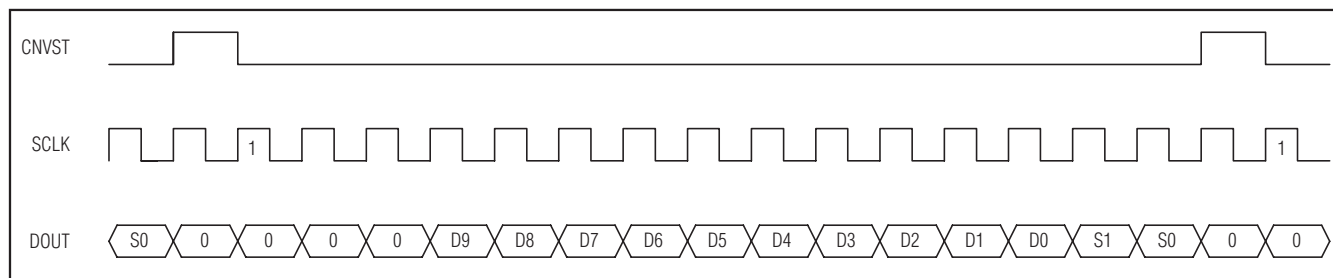

Figure 17. DSP Interface—Continuous Conversion
The MAX1076/MAX1078 can also be connected to the TMS320C54_ by using the data transmit (DX) pin to drive CNVST and the CLKX generated internally to drive SCLK. A pullup resistor is required on the CNVST signal to keep it high when DX goes high impedance and 0001hex should be written to the DXR continuously for continuous conversions. The power-down modes may be entered by writing 00FFhex to the DXR (see Figures 17 and 18).
sions, idle CNVST high and pulse it low for the entire conversion. The ADSP21_ _ STCTL and SRCTL registers should be configured for late framing (LAFR = 1) and for an active-low frame (LTFS = 1, LRFS = 1) signal. This is also the best way to enter the power-down modes by setting the word length to 8 bits (SLEN = 1001). Connect the VL pin to the ADSP21_ _ supply voltage when the MAX1076/MAX1078 are operating with a supply voltage higher than the DSP supply voltage (see Figures 17 and 18).